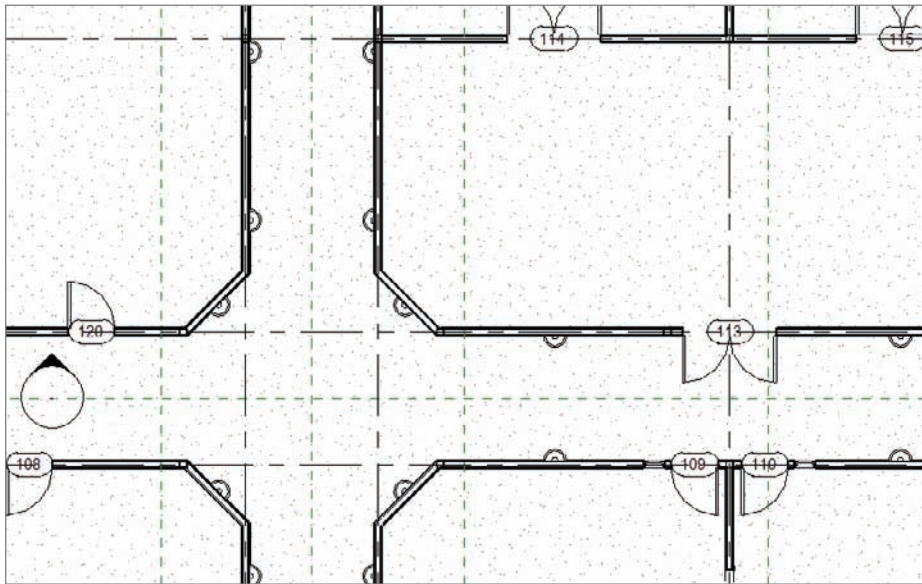

FIGURE 9.50 Copying the sconce to the other hallway walls
6. Add sconces to the walls of the hallways as appropriate, as shown in Figure 9.50.